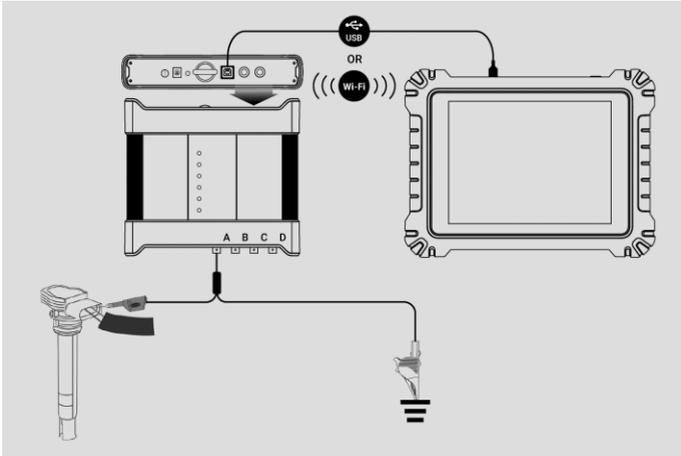

Figure 8-1 Connection Diagram
1. Insert the applicable test lead or probe terminal ends into the input channel(s) to complete the connection. (See Figure 8-1 Connection Diagram.)